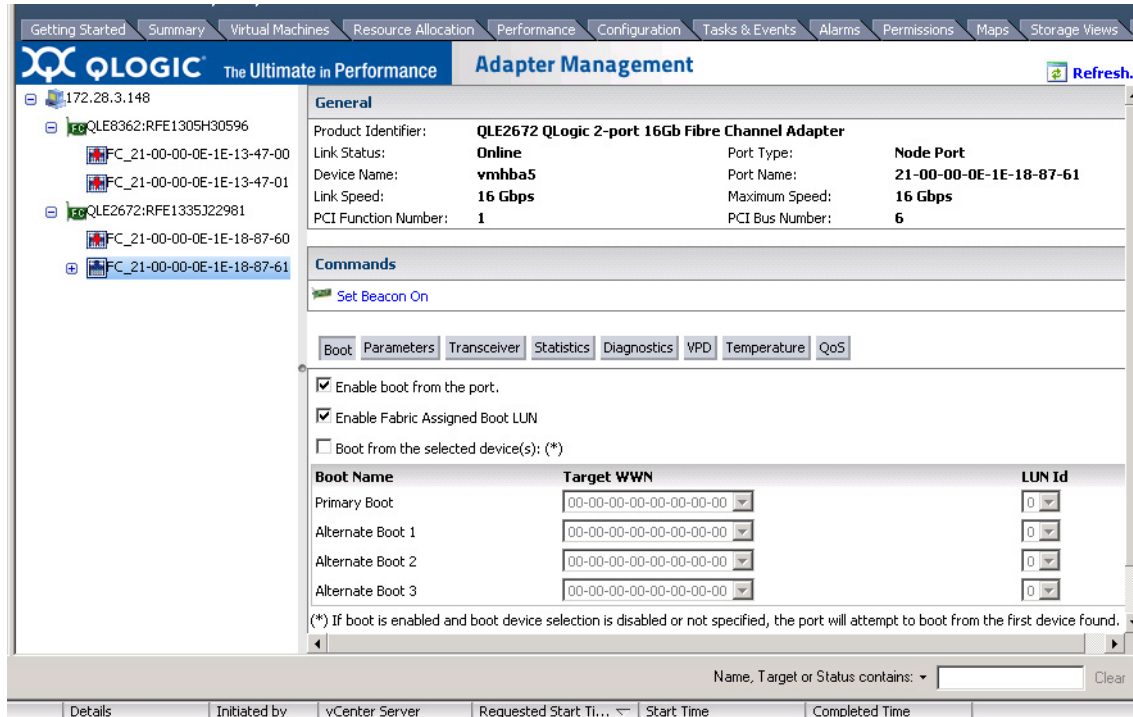

Figure 4-9. Fabric-Assigned Boot LUN in QConvergeConsole Plug-in for VMware vCenter Server
- On the Boot page, select the **Enable Fabric Assigned Boot LUN** check box. Figure 4-9 shows an example.